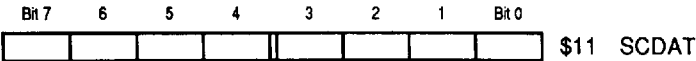
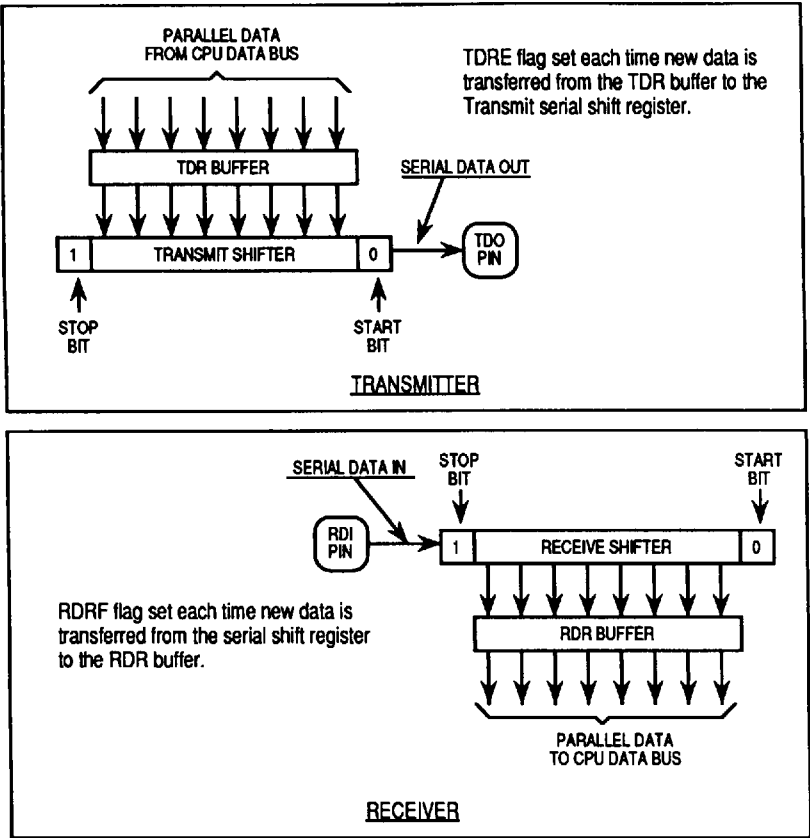

Figure 3-22. Serial Communications Data Register
Figure 3-23. Double Buffering
3.6.3.5 SERIAL COMMUNICATIONS DATA REGISTER (SCDAT). The SCI SCDAT data register (see Figure 3-22) has two functions: it is the transmit data register when written to and the receive data register when read. Both the transmitter and receiver are double buffered (see Figure 3-23), so back-to-back characters can be handled easily even if the CPU is delayed in responding to the completion of an individual character.